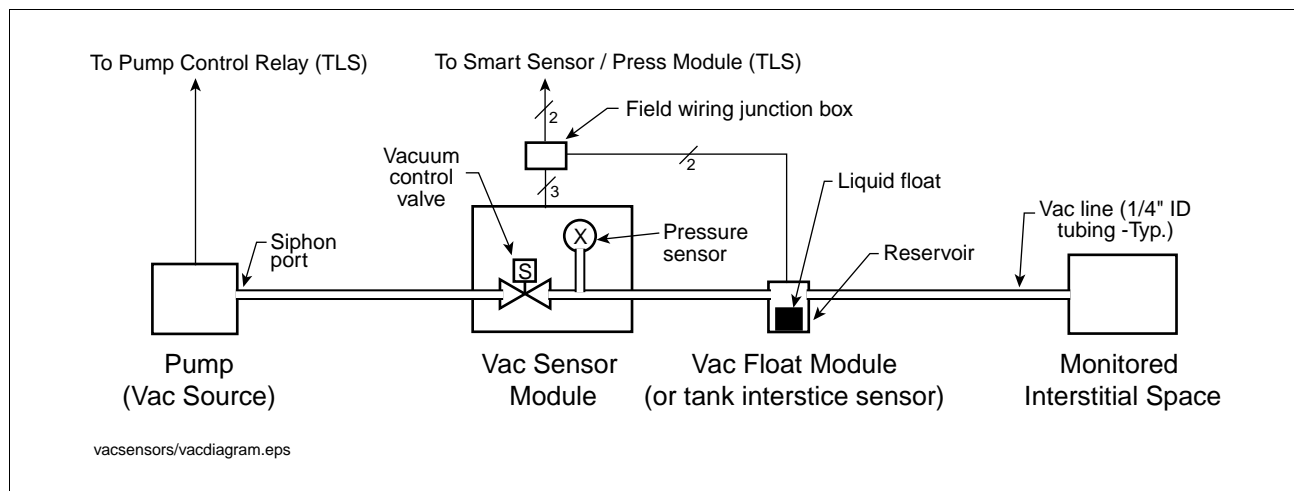

Figure 8-1. Vacuum Sensor System Components
2. Figure 8-1 shows a diagram of a typical Vac Sensor installation. The submersible pump is the vacuum source for the Vac Sensor system. Note: in this example diagram, only one Vac Sensor is shown, but multiple Vac Sensors can be connected to one pump. When multiple Vac Sensors are connected to one pump, run the manual test on one Vac Sensor at a time.